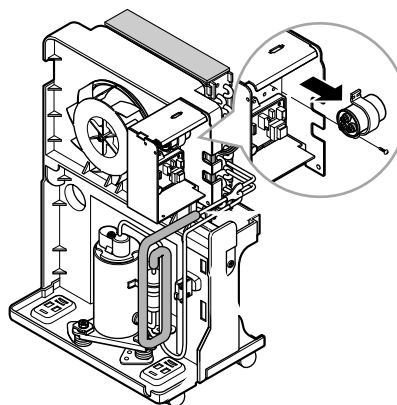

Figure 11
2. Remove the screw which fastens the PWB(PCB) ASSEMBLY, MAIN and pull it out after unhooking from 2 rectangular holes of the control box. (See Figure 11)
1. Remove the screw that fastens the capacitor. (See Figure 11)